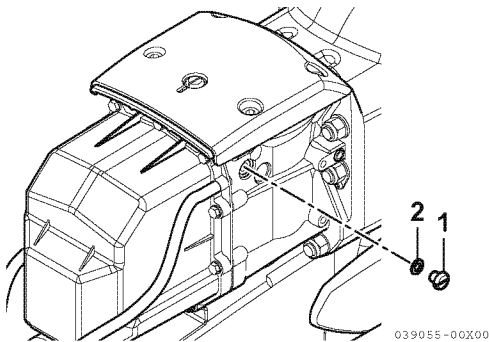

Figure 15
- 1- Remove the oil vent plug (1, **Figure 15**) and gasket (2, **Figure 15**).